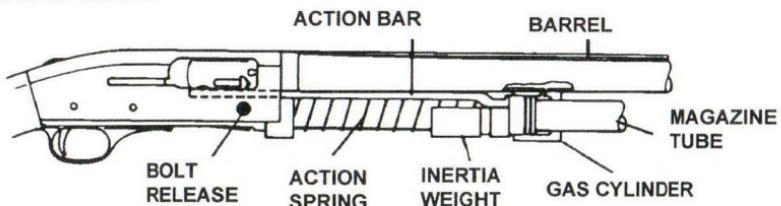

Fig. 16
**GAS SYSTEM** — The gas system includes the inertia weight, inner and outer piston ring, magazine tube, action spring, forward seal ring\*, O-ring\* and the gas cylinder of the barrel. These parts should be thoroughly cleaned using solvent. A stiff brass bristle brush is useful for removing stubborn deposits (see Fig. 16 & 17).